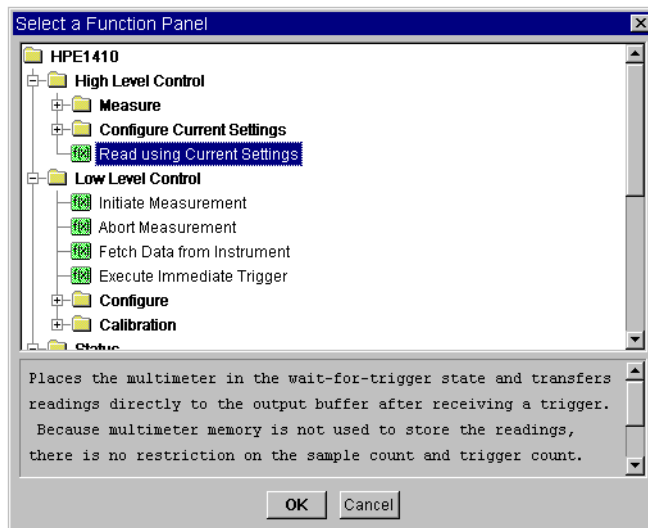

**Figure 7-2. Select a Function Panel Dialog Box**
1. Double-click an empty transaction or select Add Trans or Insert Trans from the object menu. The Select a Function Panel dialog box appears. It displays function panels grouped into logical categories, such as Measure or Configure, as shown in Figure 7-2. Each driver has different categories.